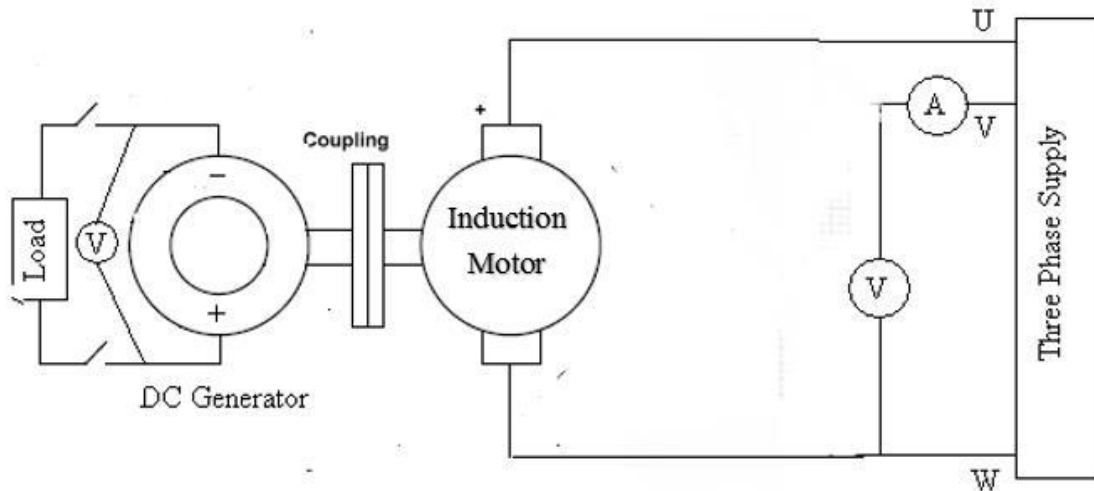

Figure 13.1: Torque speed curve of Induction motor (Cage rotor)
1. According to the given diagram in Figure 13.1 connect the different electrical wires.